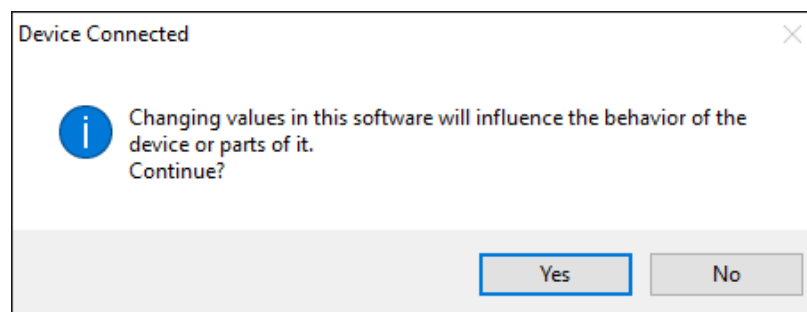

Figure 3–1 Analyzer connected information window
4. Click the **Yes** button on the message window. Refer to Figure 3–1.